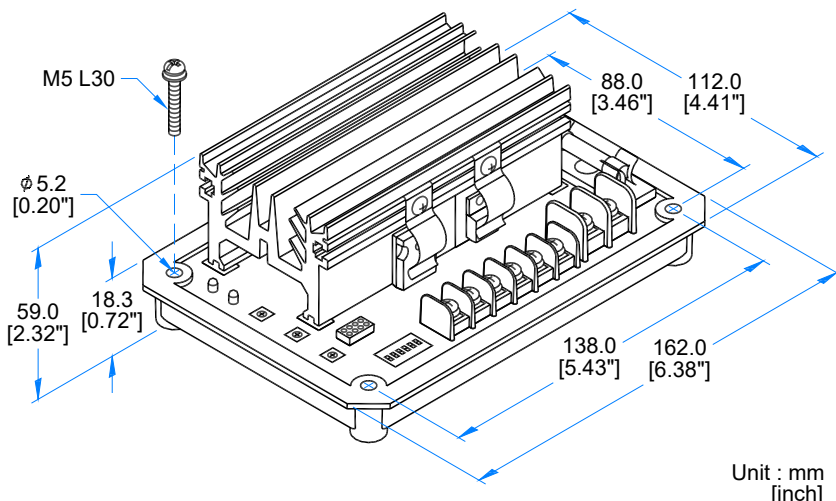

Figure 1 Outline Drawing
1. AVR can be mounted directly on the engine, genset or any position that will not affect operation. Please see Figure 1 for dimension.